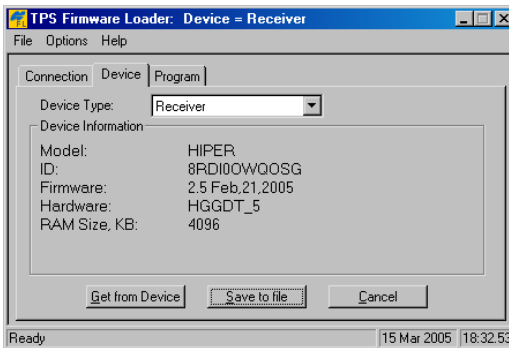

Figure 4-18. Get Device Type
1. In FLoader, click the **Device** tab and set the *Device Type* as "Receiver". Then click **Get from Device** for device information (Figure 4-18).